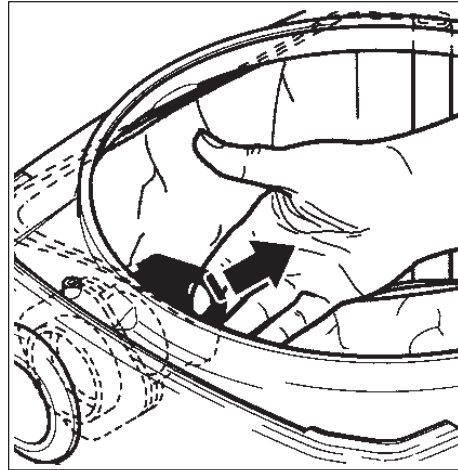

Figure 4
4. Connect the suction hose. The "Wap Multifit" enables any Wap Technology suction hoses (27, 32, 36, 50 mm diameter) to be connected to the machine (Figure 4).
1. Close the bag-type filter sleeve with the slide (Figure 4).